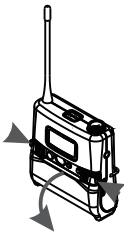

Fig. 28
1. Press the side hooks to open battery compartment. Remove the battery carefully. Fig. 28